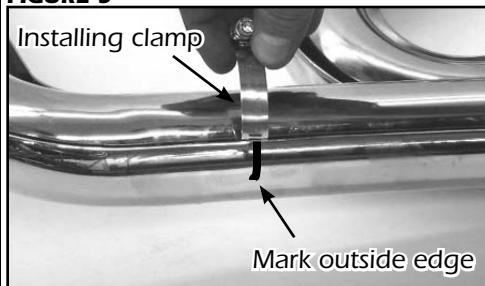

FIGURE 6
4. Install #20 hose clamps by feeding tail end of clamps into heat shield clips (Figure 5). Take note of clamp screw head direction (Figure 6). Screw head must be accessible when system is installed on motorcycle for adjustment purposes.